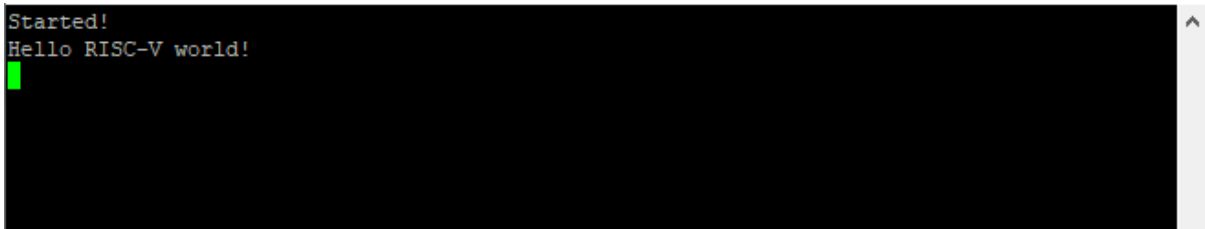

Figure 7.23. Hello World C Program
12. You must see the *Hello World* message as shown in Figure 7.23.